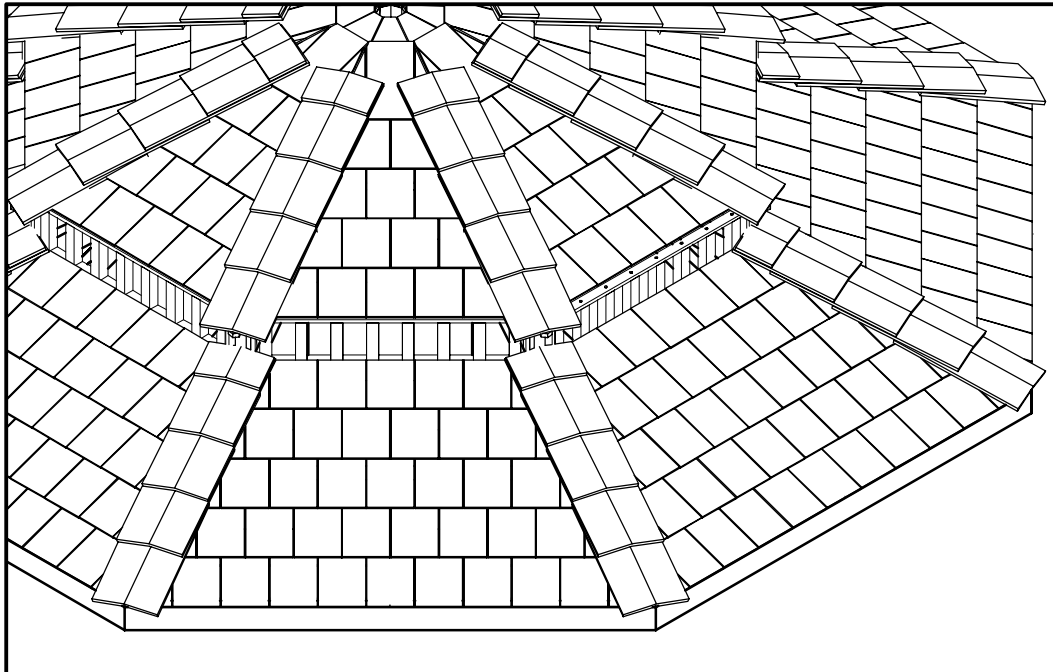

FIGURE S26
- The Ridge Caps are placed over the Long Roof Rafters and cover the seam between any two Roof Panels. See Figure S26. Note that the Ridge Caps are installed from the bottom up. Place the first Ridge Cap with the bottom edge  $\frac{1}{2}$ " beyond the outside edge of the Shingles. Using 2" roofing nails, fasten the Ridge Cap to the Shingles.